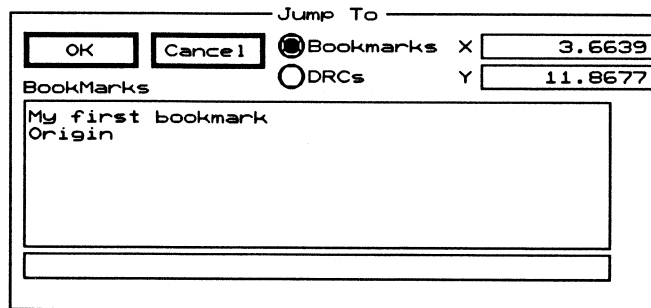

Figure 4-12. The **Jump To** dialog box.
2. Select **JUMP**. The **Jump To** dialog box displays (figure 4-12).